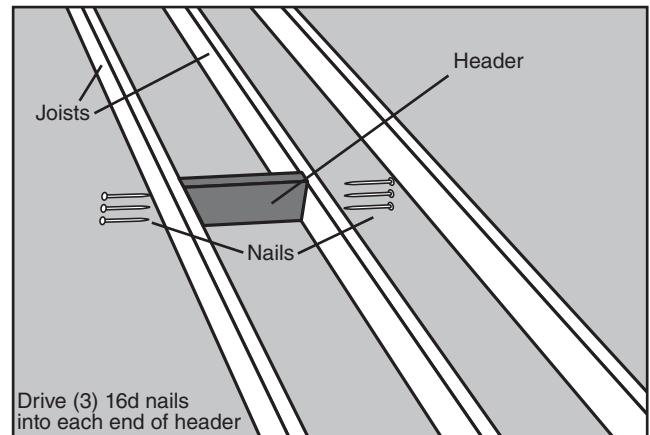

FIGURE 12
- STEP 3.** Place one of these headers at one end of your chosen location (See Figure 12).
- STEP 4.** Square the header to one joist and drive (3) 16d nails through the joist and into the header. Check for squareness and drive (3) 16d nails through the other joist and into the header (See Figure 12).